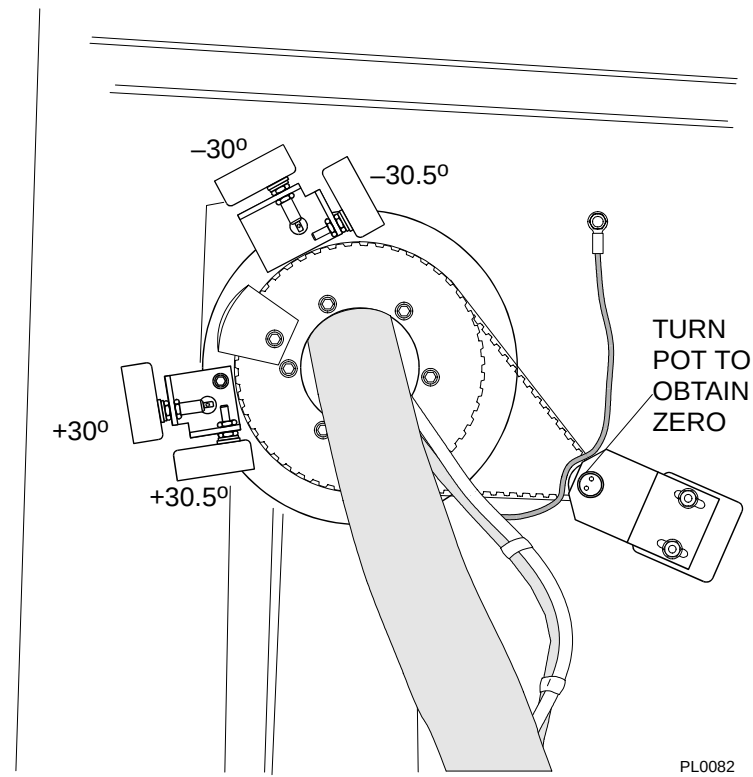

FIGURE 101 TILT POT AND LIMIT SWITCHES – RIGHT GANTRY COLUMN
7. Apply Gantry power. Refer to the Power Up/Down procedure. Rotate the pot output shaft until the voltmeter indicates 0.0 VDC. The pot output can be adjusted by carefully turning the pot, allowing the belt to slip around the smooth Gantry pulley. Refer to Figure 101.
8. Disconnect the DMM from the CTCC. Use the gantry control panel switches to tilt the gantry in the positive direction. While the Gantry is tilting, activate each positive limit switch to verify it interrupts the tilting motion. Refer to Figure 101 for limit switch location.